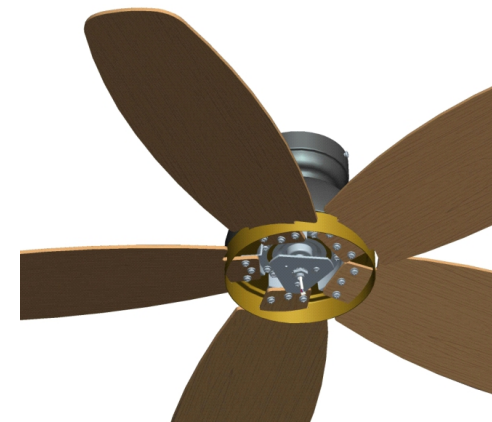

Fig. 6.2
6.2 Repeat for the remaining blades. The installation of the blades is shown in the Fig. 6.2.